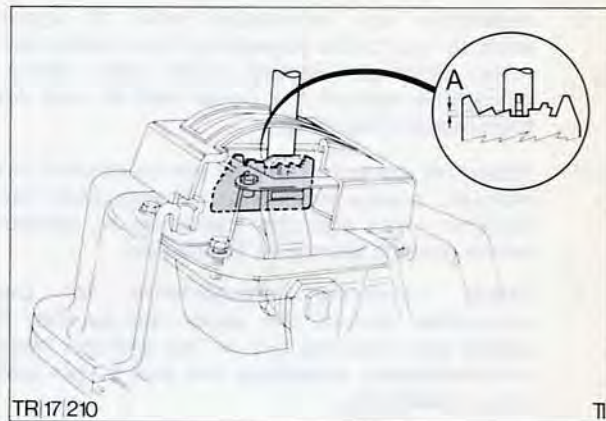

Fig. 10. Selector pawl stub and notch clearance
- Using a feeler gauge, adjust operating cable by means of locknut to give 0,1 to 0,2 mm (0,004 to 0,008 in) clearance between selector pawl stub and notch, Fig. 10, on selector lever housing.